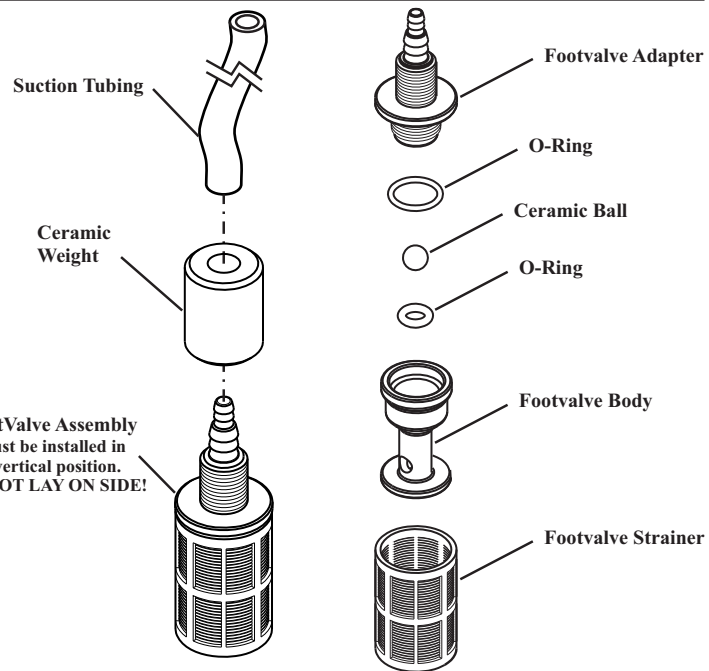

FIG. 4.7 FOOTVALVE ASSY.
- Ô Periodically clean the suction strainer. Fig.4.7